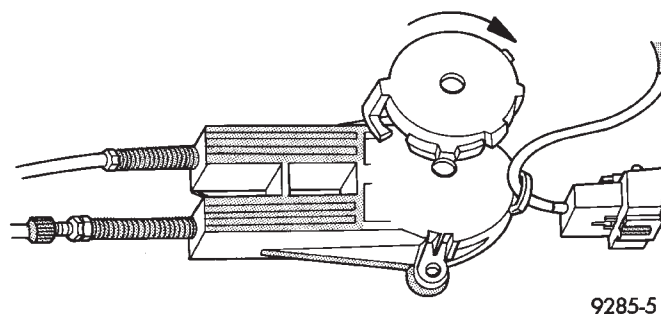

Fig. 19 Wind Assist Spring Cover
(3) Replace assist spring on cable housing. Wind spring counter clockwise 3 1/2 turns on the left door. The right door, wind spring clockwise 3 1/2 turns (Fig. 19).